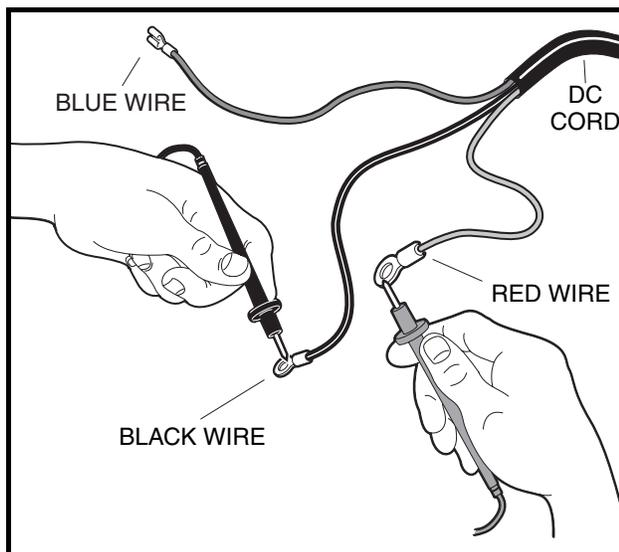

Figure 4-11 DC Cord Test
6. Using a continuity tester (CCI P/N 1011273) or multimeter set to 200 ohms, connect the test probes to the DC cord black wire removed from the terminal strip and the DC cord red wire removed from the large solenoid post (**Figure 4-11, Page 4-14**). Note the reading.